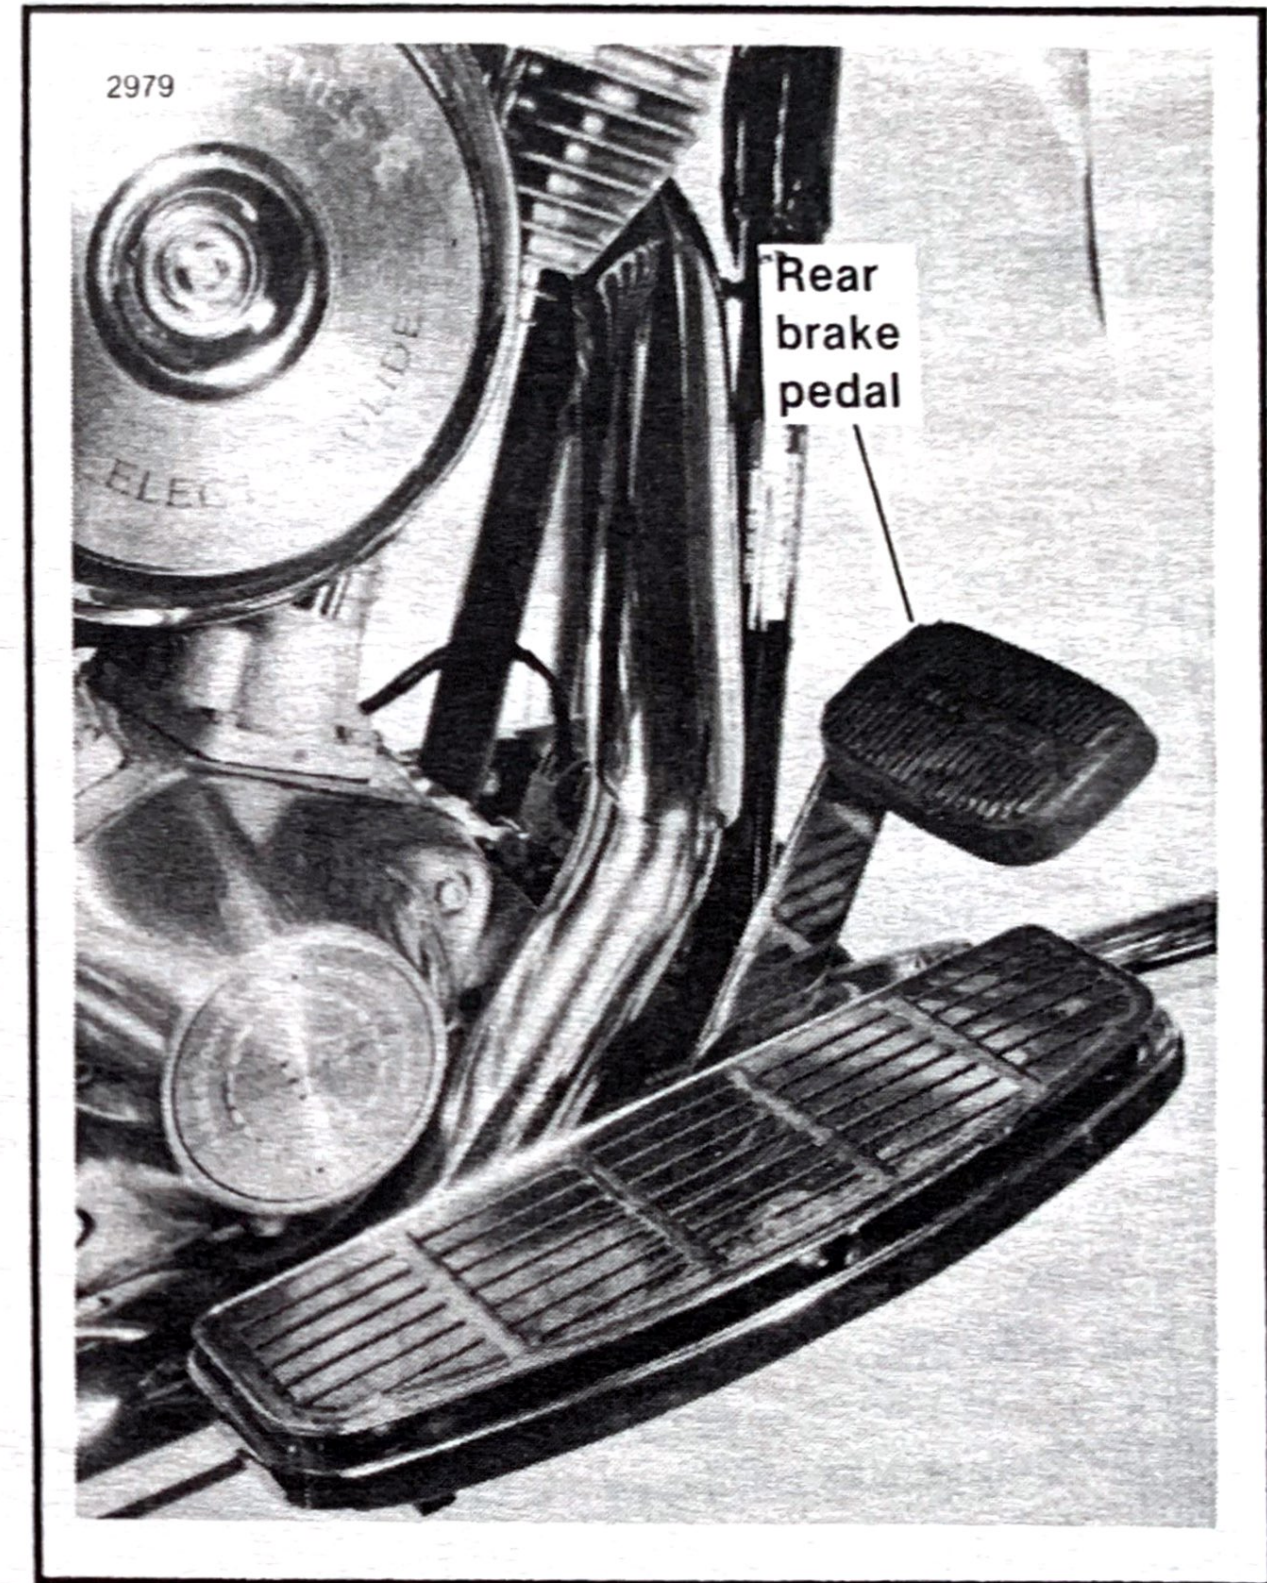

Figure 6. Rear Brake Pedal - FLHTP
See Figures 6, 7. The brake pedal controls the rear wheel brake and is located on the right side where it is operated by the right foot. See Figure 9. The brake hand lever (10) controls the front wheel brake and is located on the right handlebar, where it is operated by the fingers of the right hand.